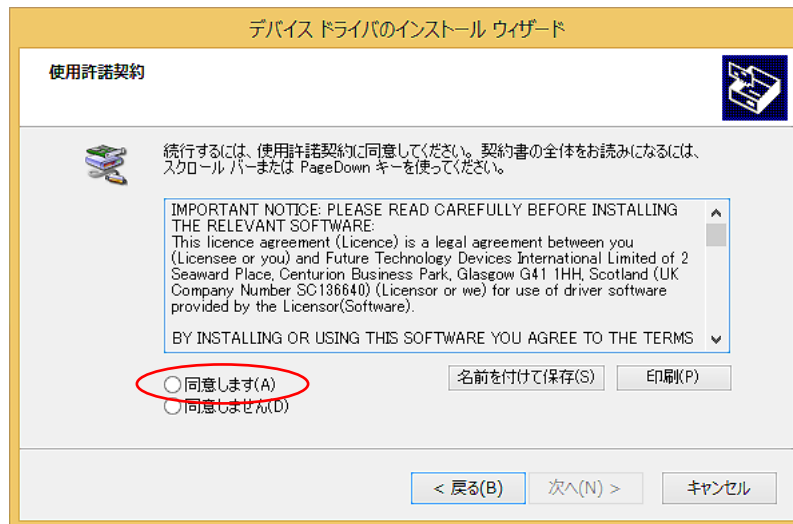

Fig. 10: Product License Agreement
- (4) Select [Next] and Fig. 10. Product License Agreement screen is shown.